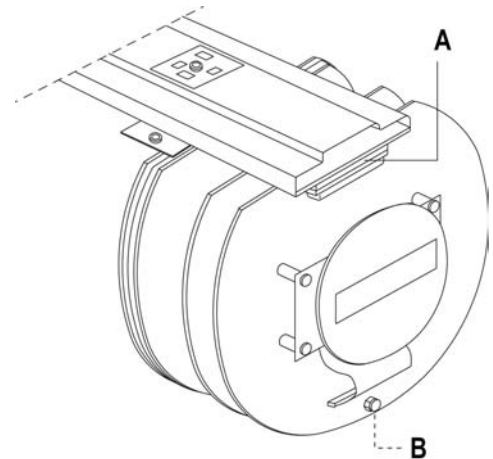

Figure 5.2 Locking latch
- Remove PCB retaining screw (B), slide the locking latch (A) on the XPU(-2) board to the right (refer to figure 5.2).